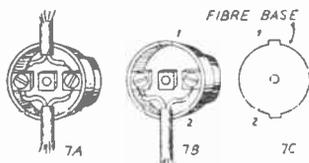

FIG. 7
the cord. When the staple is finally hammered into the board, only the fibre around the staple should hold the wire against the board, as shown in Fig. 7. Be sure the staple is large enough for the cord used. Now you may temporarily pull out the cap. Make a sharp (L) right angle bend to the wire, and tack the wire down with another staple. Continue down the entire length of the extension, using enough holding staples to keep the wire cord in place. About every three feet should suffice. Use two staples at each bend and two at the end. Complete the job by screwing the receptacles to the baseboard with the wood screw usually provided. You may connect the ohmmeter to the two prongs of the cap to be finally sure there is no short circuit. Plug the cap into the wall outlet.